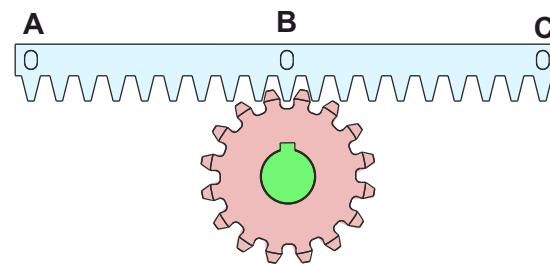
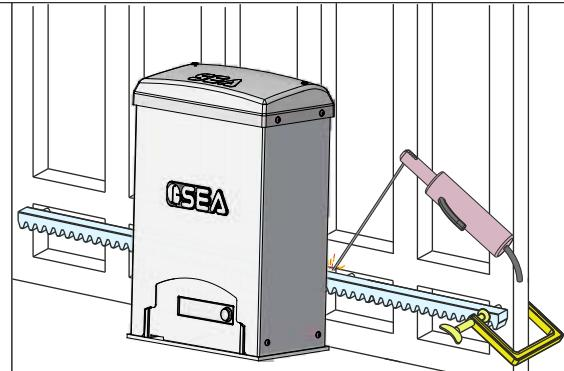

Fig. 7
Fig. 8
- 6.3. Lean the gear rack element on the toothed pinion of the operator in parallel to the ground slideway of the gate, as shown in Fig. 7 and electrically weld the central pawl **B** to the gate structure - Fig. 8. Manually move the gate until pawl **C** is placed in front of the pinion and fix it through electric welding. Repeat the same procedure for pawl **A** after having placed it in front of the pinion;